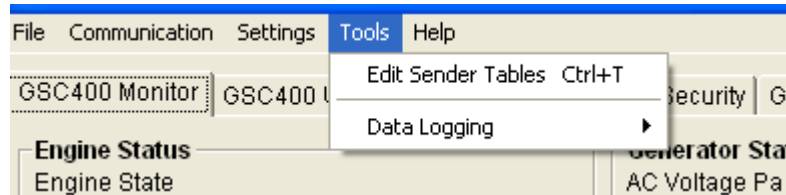
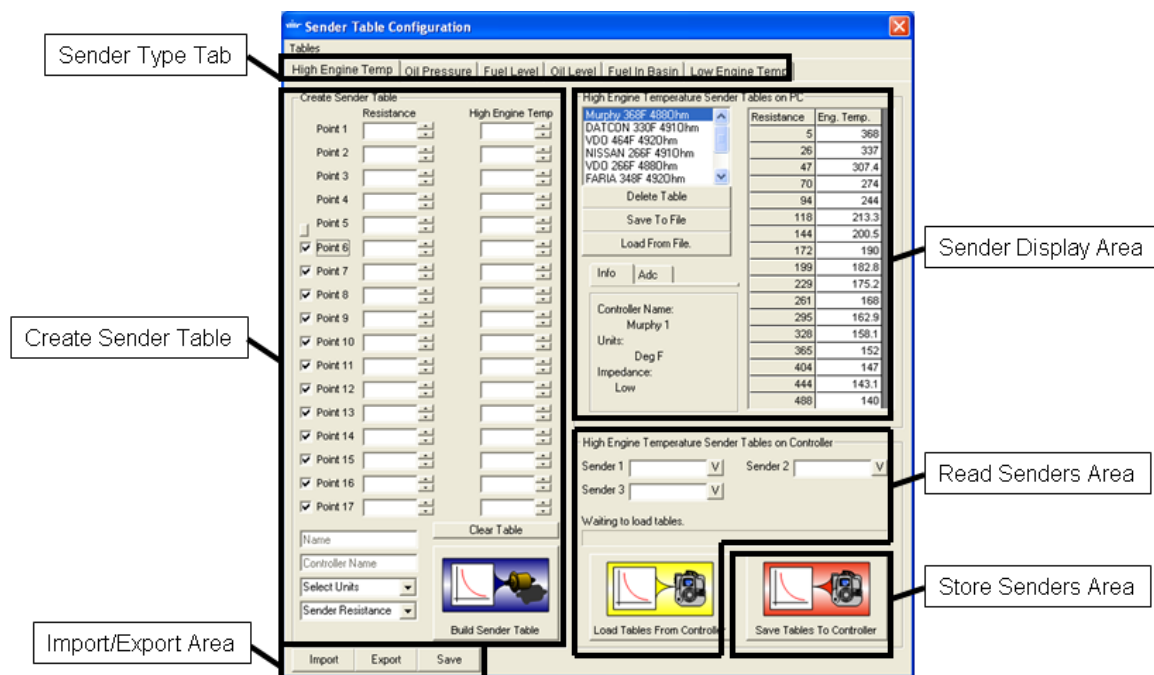

Figure 49 – PC Interface main window menu located at the top of the window.
Figure 50 – Sender Table Configuration Utility
The utility is opened from the PC Interface main window. To open the utility go to Tools in the top menu and click on Edit Sender Tables (Figure 49). The utility will open as shown in Figure 50.
This section will step through the areas of the Utility window as shown in Figure 50. The next section will contain more detail on how to save senders to the controller and how to create custom sender tables.
2. Click on the tab of the sender type you want to create a table for (Sender Type Tab in Figure 50).